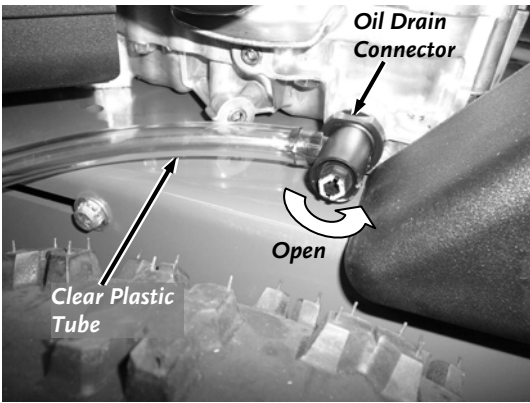
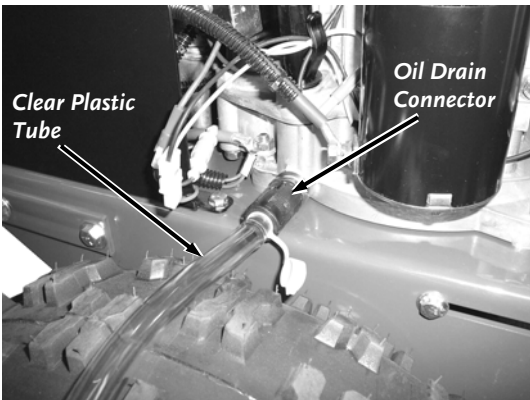

Figure 10
Figure 11
1. Slide one end of the Clear Plastic Tube over the Oil Drain Connector (**Figure 10** Kawasaki, **Figure 11** Briggs) and the other end into the Oil Drain Container. The Honda Engine does not use the Clear Plastic Tube.
2. For Kawasaki Engines, open the Drain Connector with a 10mm Wrench or Flat Head Screwdriver to drain the Oil (**Figure 10**).
3. For Briggs Engines, pull the Cap off the Oil Drain Connector, push in and rotate the Drain Connector to the left to drain the Oil (**Figure 11**).